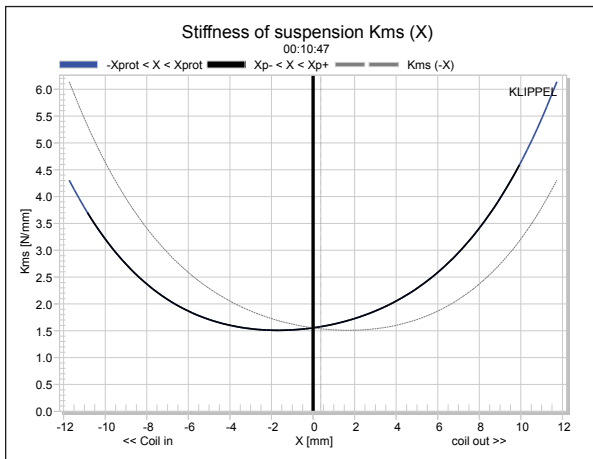
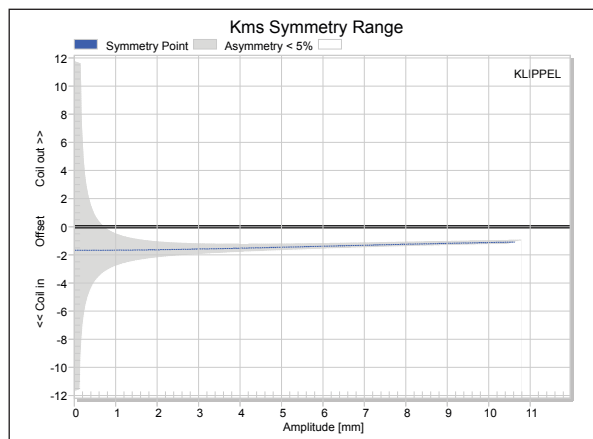

Figure 25: Klippel analyzer mechanical stiffness of suspension Kms(X) curve for the Volt RV3143
Figure 26: Klippel analyzer Kms symmetry range curve for the Volt RV3143
Figure 25 and Figure 26 show the Kms(X) and Kms symmetry range curves. The Kms(X) curve is likewise moderately symmetrical with a small amount of "tilt" along with some rearward (coil-in) offset at the 5.2 mm physical Xmax position. At this position, which shows a high degree of certainty, the offset is about 1.46 mm.